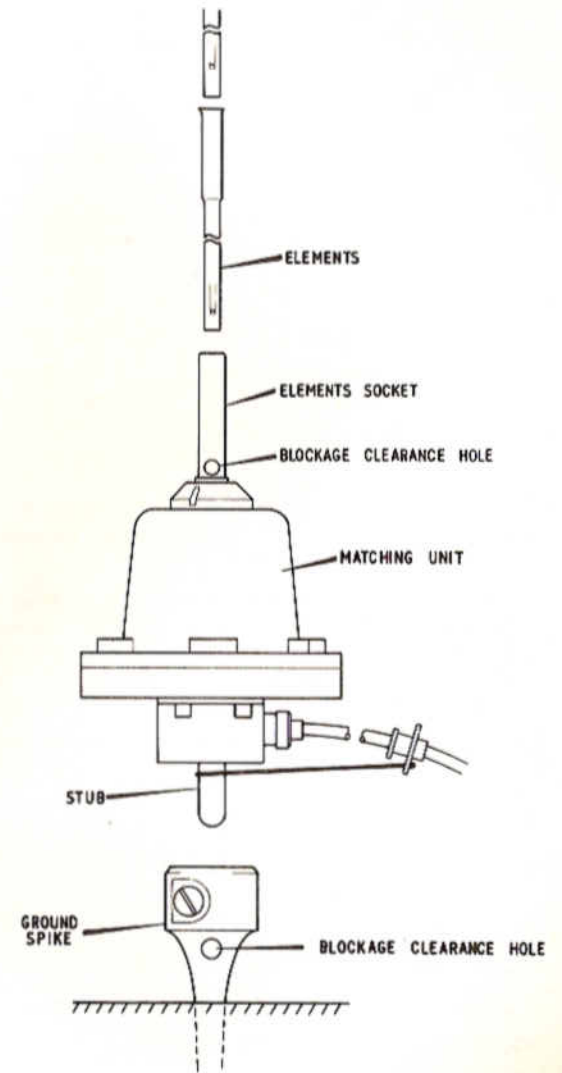

Fig.22 Assembly of Ground-Spike Antenna
5. At the chosen site, preferably an open site with damp earth, assemble and erect the antenna as follows (Fig.22), removing each item from the carrying case only when the item is required.